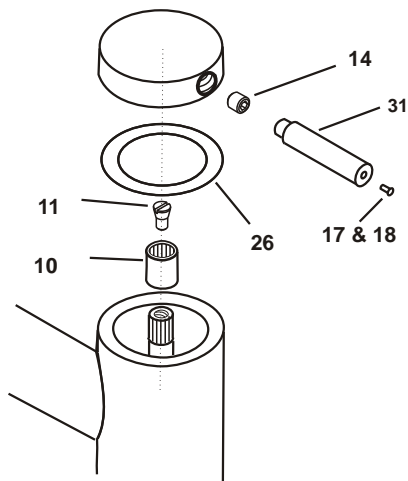

Figure 9
Unscrew the lever (31) which should only be hand tight, to reveal the grub screw (14) which when undone using a 3mm A/F Allen key allows handle to be pulled off. (Figure 9)